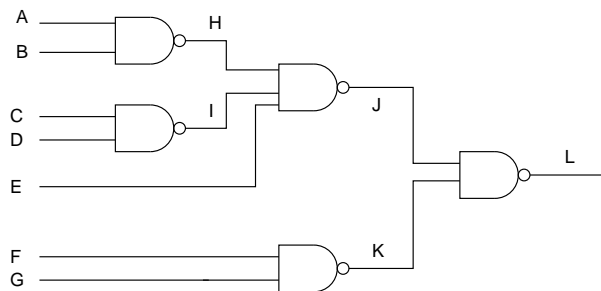

Figure 2: A Fanout Free Circuit
- (e) (5 points) Consider a fanout free combinational circuit given below in Figure 2 and answer the questions related to this.